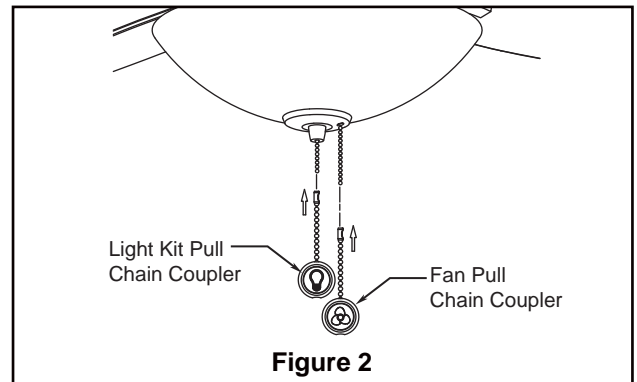

Figure 2
- 2. Install the fan pull chain coupler and light kit pull chain coupler. (Figure 2)